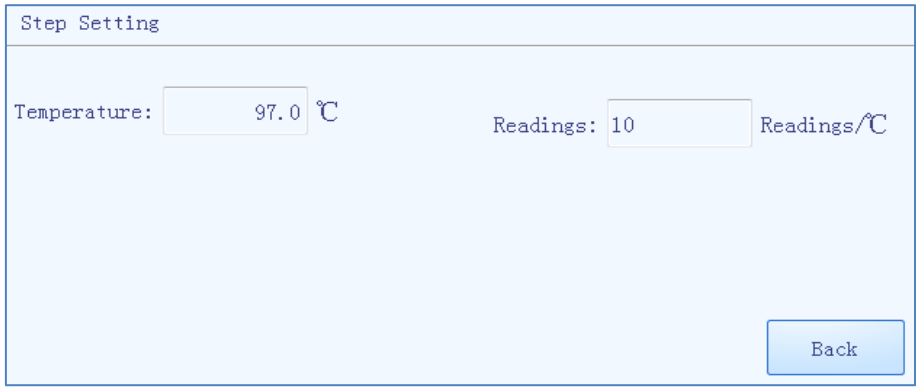

Figure E-3.8. Step Edit Window - Continuous Melting Step Mode
- 6) If the current step is the last step of a continuous melting stage, the step setting window of this step is as shown in figure E-3.8.